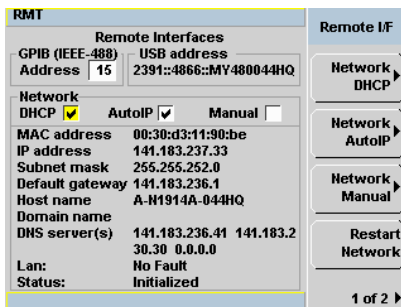

Figure 1-2 Typical LAN Remote Interface
- 3 Press , **Remote Interfaces** to display the Remote Interface display (see Figure 1-2). Ensure that AutoIP is checked.
2 Press , **Remote Interfaces** to display the Remote Interface display (see Figure 1-2).